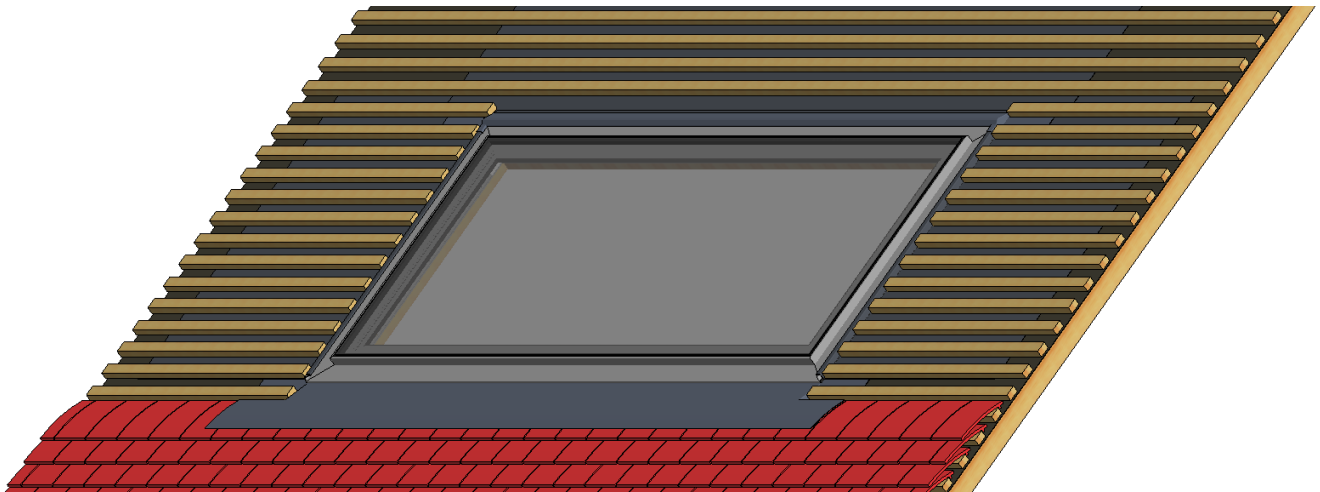

Fig. 13a – Cill tiled and cill flashing finished
- Fold and boss the cill flashing into final position (fig. 13a)